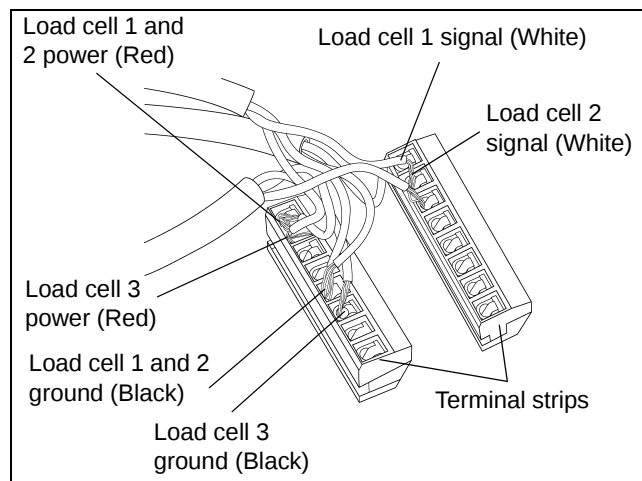

Figure 5F Load Cell Connections to Display Box
- d. To make load cell connections, remove terminals strips. Insert wires into correct terminals and tighten lugs. (See Figure 5F and Wiring Diagram on Page 18.)